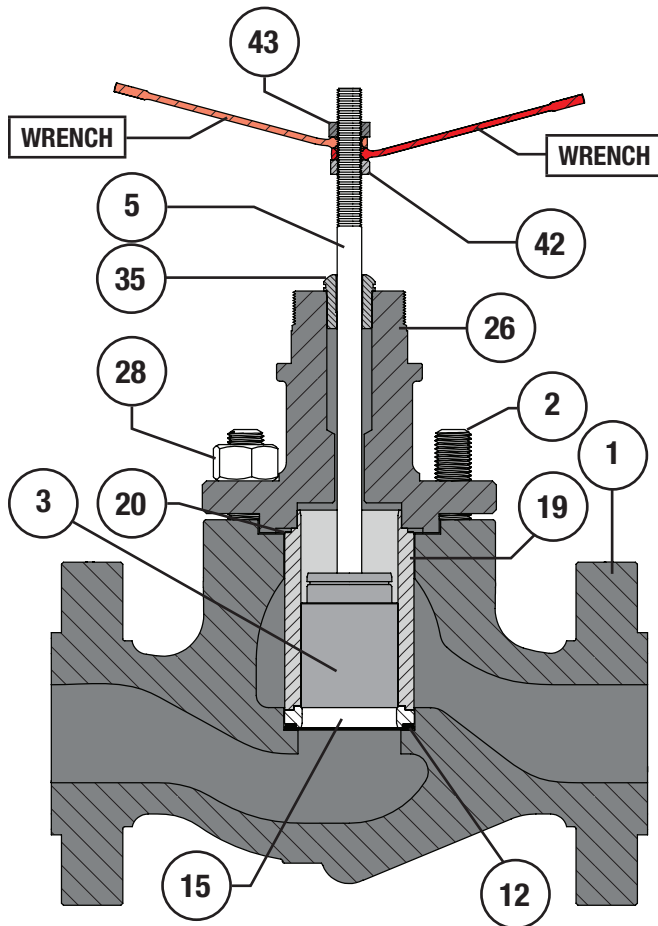

Figure 16 Lapping Procedure Setup (Steps 1 - 8)
- 8 Install the jam nut (Key 42) on to the valve stem (Key 5) and build a handle as shown in Figures 16 and 17 using two wrenches and the hex nut (Key 43).